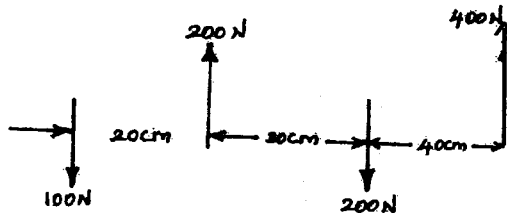

Fig 2
d) Determine the resultant action of a coplanar parallel force system in the given figure (Fig 2)